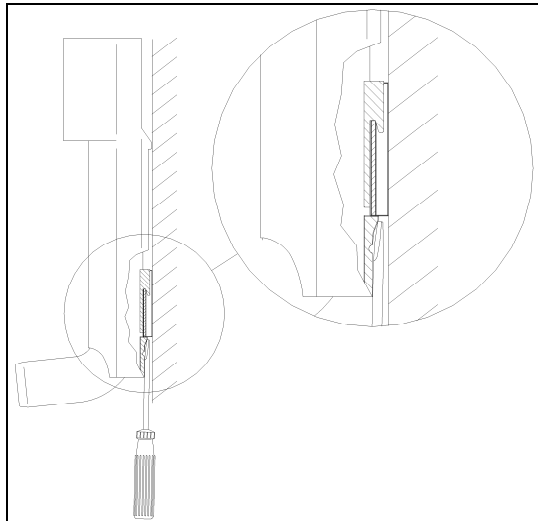

Figure 5-18: Middle Spray Arm Cover Removal
1. Insert a large screwdriver between the cover retainer and the metal holder on the rear of the cabinet wall. See Figure 5-18.